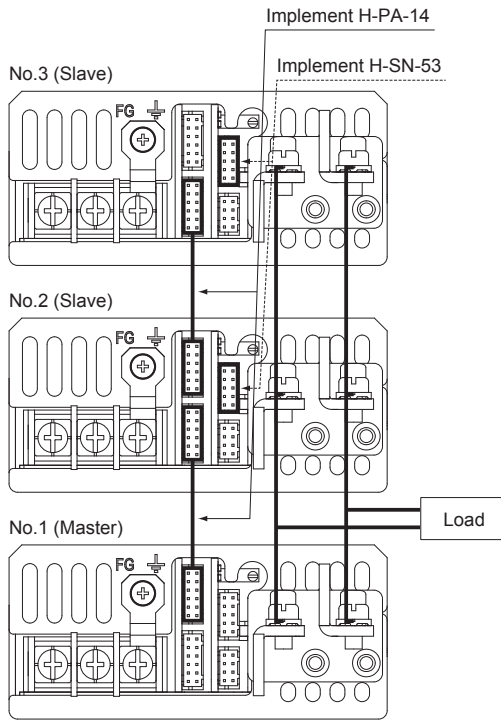

Fig.4.2 Connection method in parallel
- Wiring method with series operation is shown in Fig.4.2.